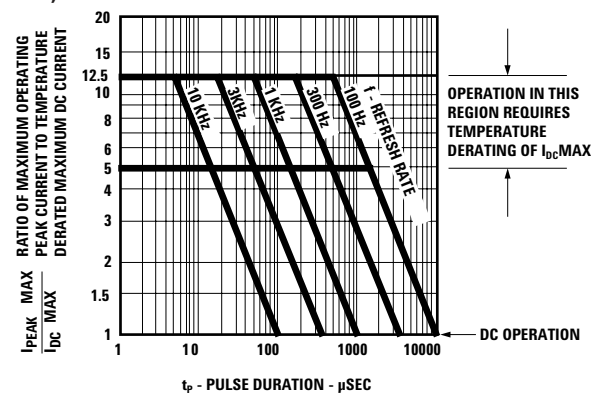

Figure 1. Maximum Tolerable Peak Current vs. Pulse Duration – Red.
- See Figure 1 to establish pulsed operating conditions. Maximum pulse width is 1.5 ms.